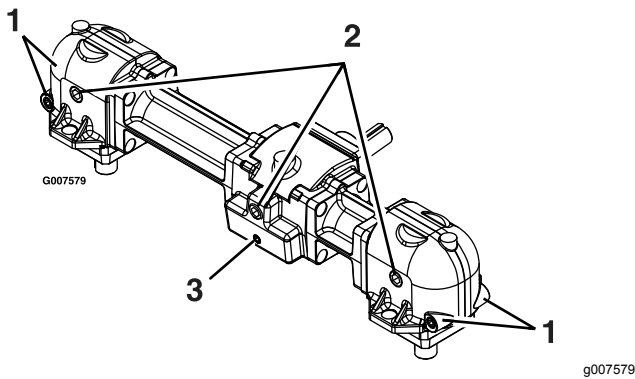

Figure 32
5. Remove the large oil drain plug on the front of each of the 3 gearbox sections and drain the oil (Figure 32).